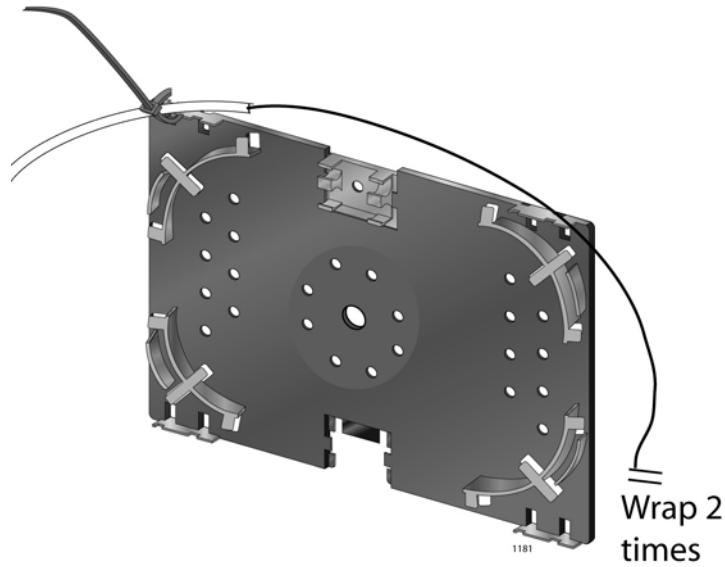

Figure 21. Securing the Buffer Tube
9. Just beyond the tie, strip the buffer tube away. Refer to Figure 21